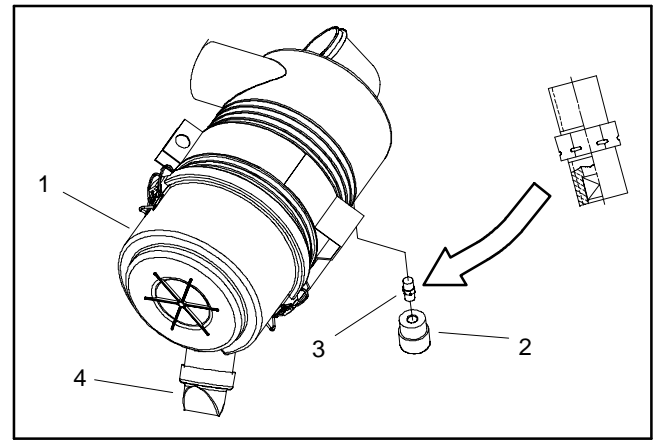

Figure 5
- A. If service indicator (item 2) and adapter (item 3) were removed from air cleaner housing, apply thread sealant to adapter threads before installing adapter and indicator to housing. Install adapter so that grooves in adapter hex and adapter filter element are installed toward service indicator (Fig. 5). Torque indicator from **12 to 15 in-lb (1.4 to 1.6 N-m)**.